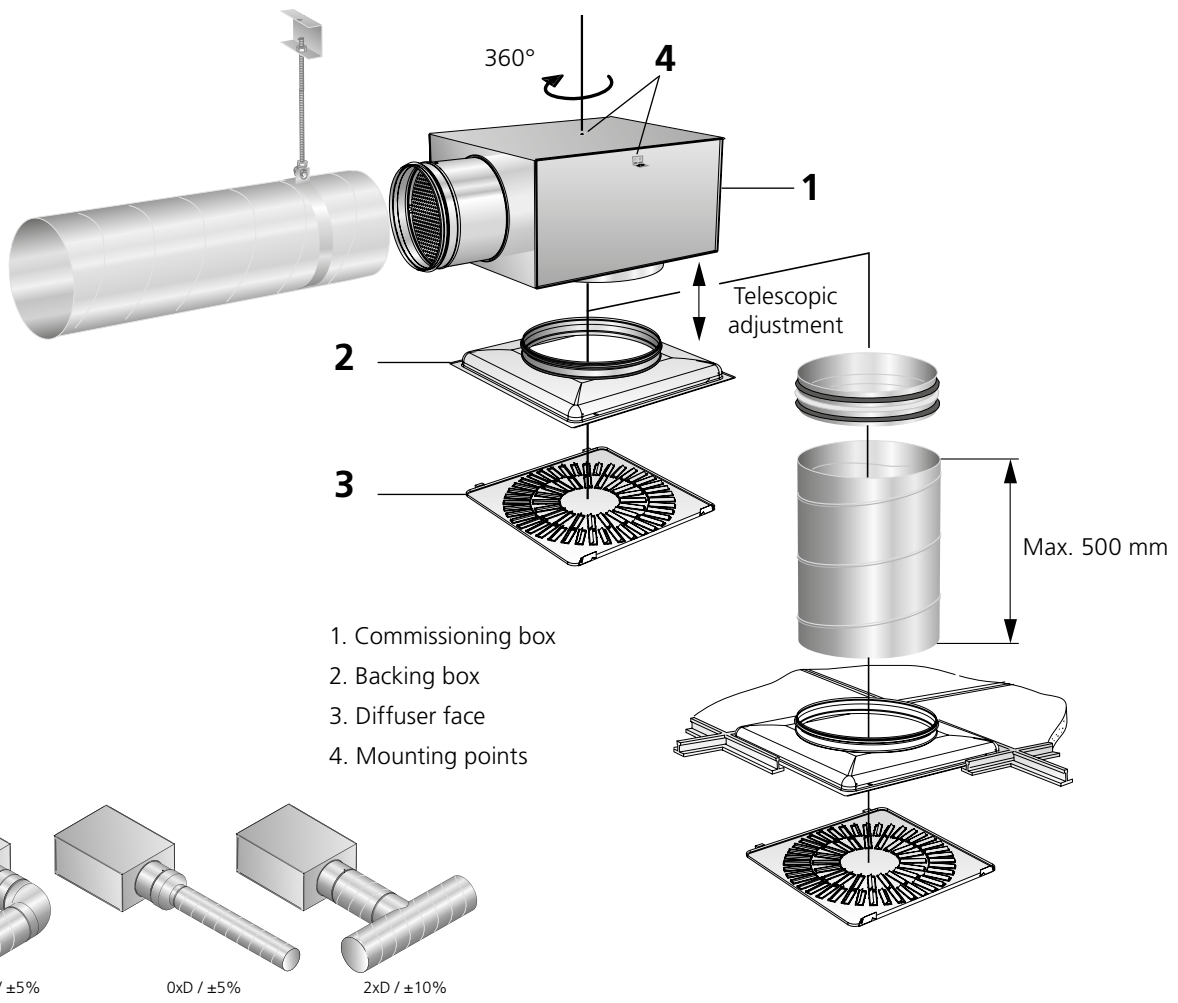

Figure 2. Installation alternatives.
- Extension with 500 mm circular duct between the commissioning box and the air diffuser can be made, without having to lengthen the measuring tubes and damper adjustment cords, see figure 2.
- Measurement accuracy and requirement on straight duct before the commissioning box, see Figure 2. The requirements of straight duct depends on the type of disturbance before the commissioning box. Figure 2 shows a bend, a dimensional change and a T-piece. Other types of disturbances requires at least 2xD straight (D = connection dimension) for measurement accuracy of $\pm 10\%$ of the flow.